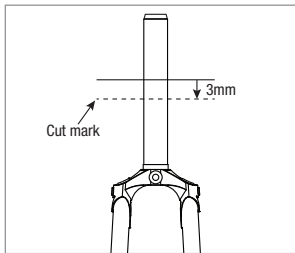

Figure 5
9. Locate the mark made in step 8. Measure down 3mm and make a new mark for cutting (Fig. 5).